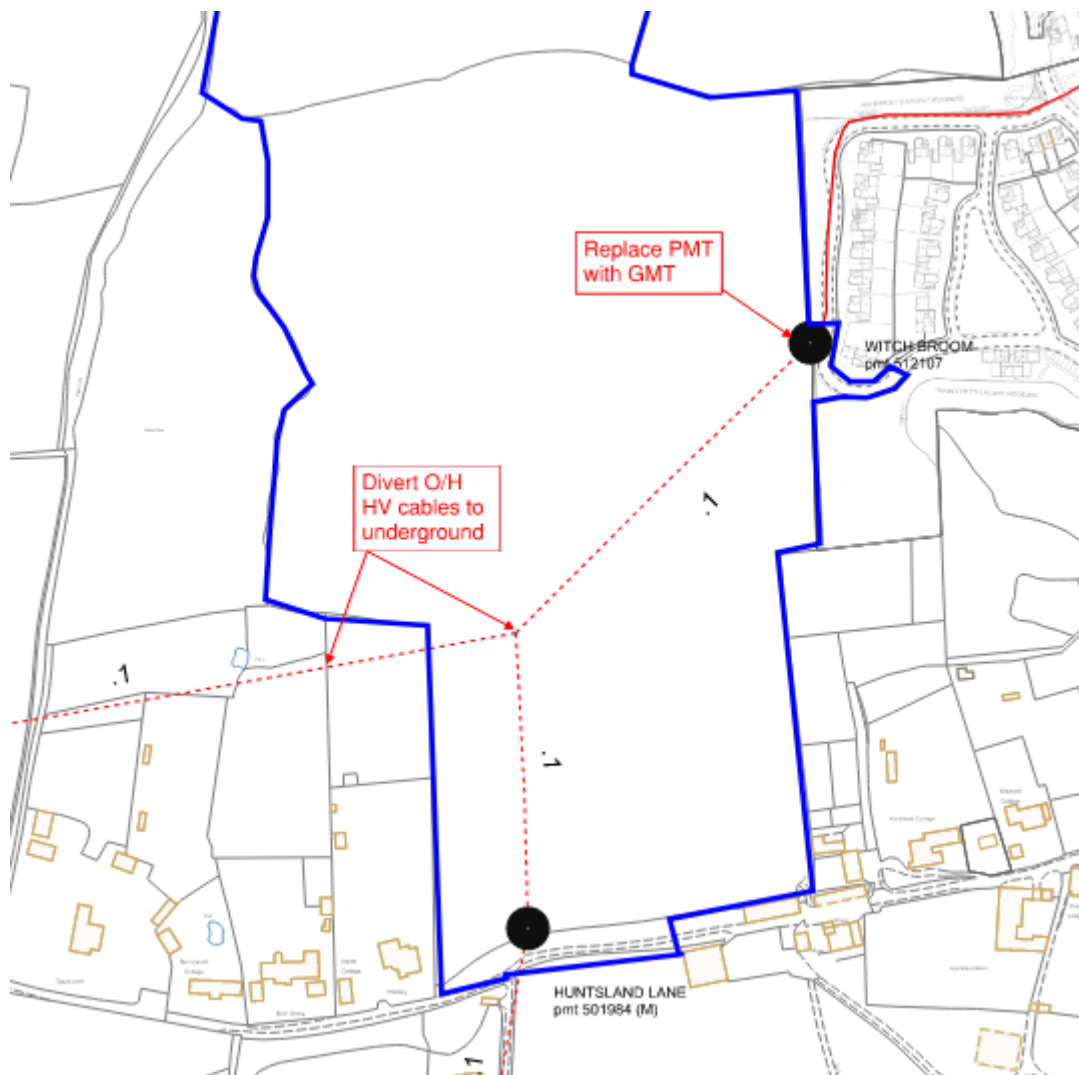

Figure 8: HV overhead lines to be diverted
5.2.1 The existing HV overhead lines at the site are currently clashing with the illustrative masterplan and potentially constraining the land arrangement and use. A diversion budget estimate from UKPN was requested for a feasible solution to divert the overhead HV lines routing through the site. To divert the lines, UKPN have proposed to relocate the sections to the north of Huntsland below ground. The works also include removing poles and the existing pole transformer and replacing it with a ground mounted substation (Figure 8). **Please note the routes shown are indicative.**